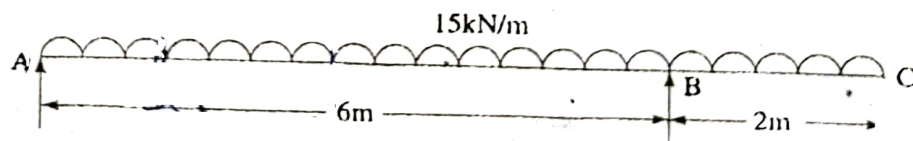

Fig.1
2. Draw shear force and bending moment diagram for the cantilever beam shown in *Fig. 1*.